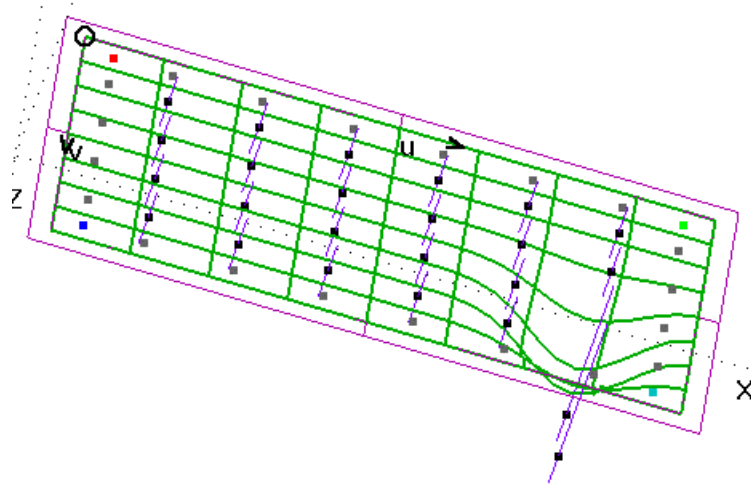

Fig. 1. Basis boundary surface with 2 control sliders dragged downward.
- As point-on-a-line sliders in the graphic image, displayed when the Insert/Edit dialog is open (Fig. 1). When you are first creating a Tangent Boundary Surface, you must specify the bounding curves and click Apply before the set of control sliders will appear in the graphic display. (If additionally you set the number of control values and the edge continuities you want before clicking Apply, you'll immediately be ready to shape your surface.) After that, the slider controls will be displayed whenever you have the Edit dialog open for the surface and the cursor focus is not in the "Bounding curves /continuity" field.